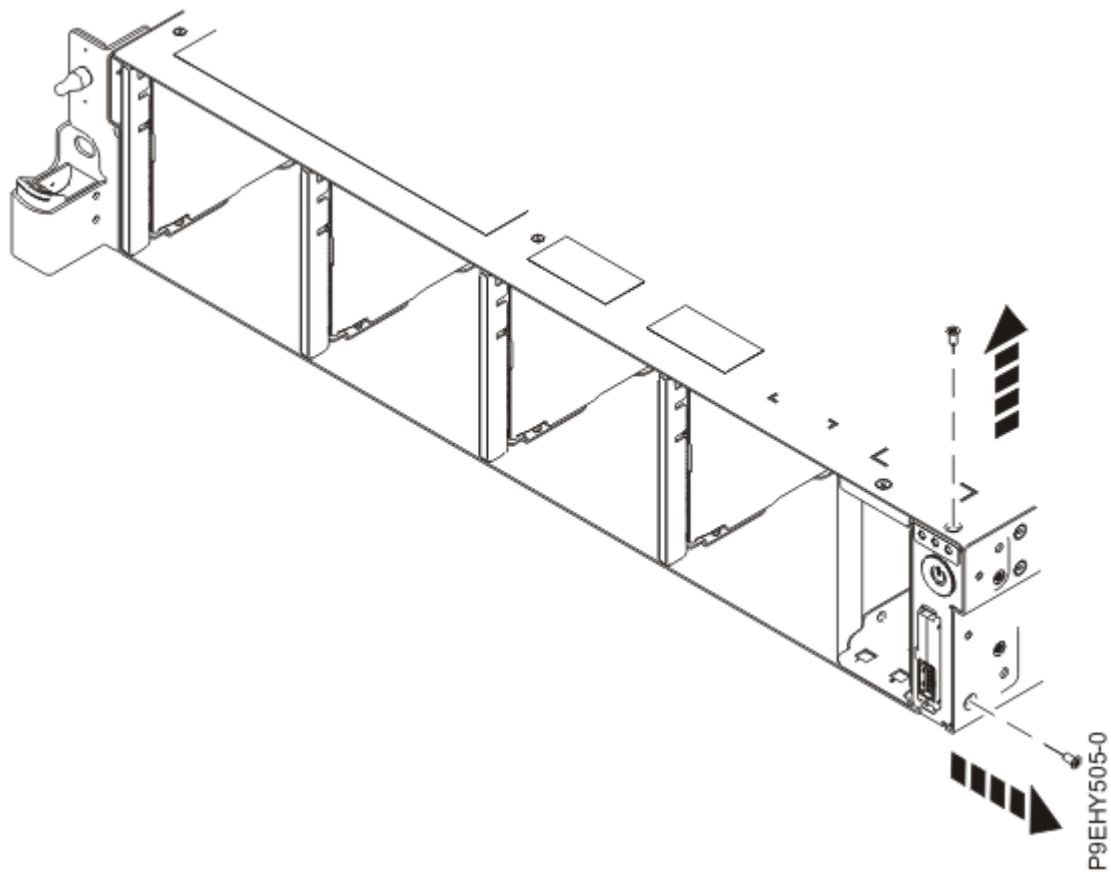

Figure 38. Remove the top and side screws
8. Remove the top and side screws from the power switch as shown in Figure 38 on page 54.